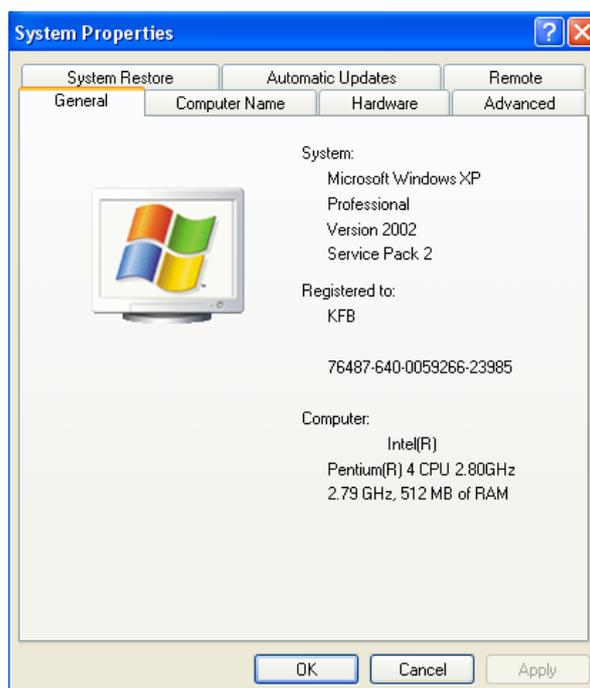
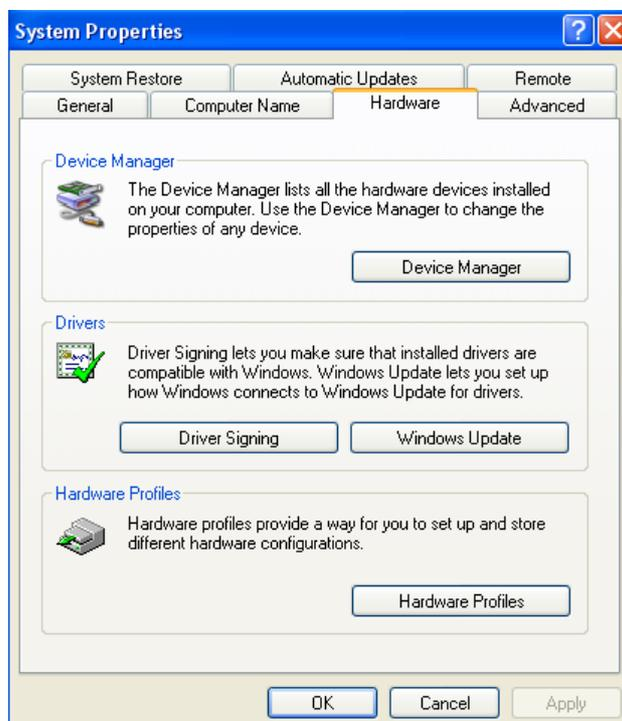
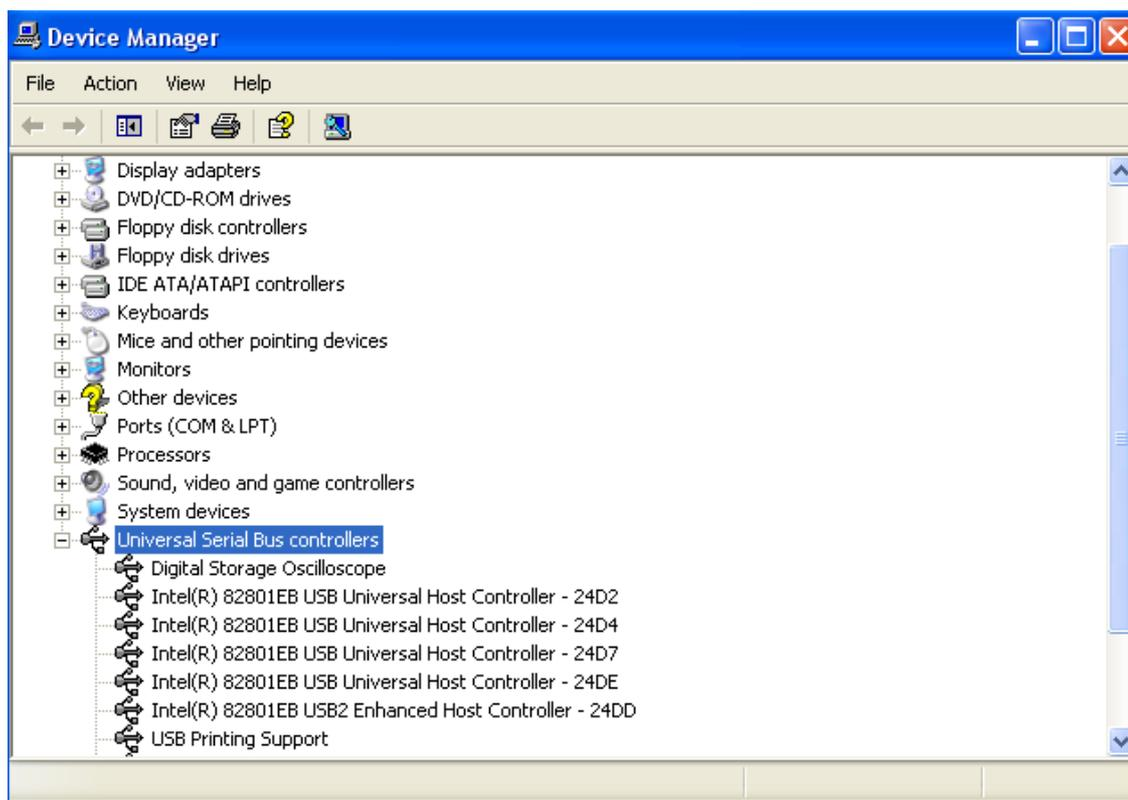

Fig 4-3
Fig 4-4
Fig 4-5
② In Fig 4-2, select “attribute” and right click to pop up Fig 4-3.
③ Select “hardware” in Fig 4-3. Fig 4-4 is displayed.
- ④ Select “equipment manager D” in Fig 4-4. Fig 4-5 pops up.
- ⑤ In Fig 4-5, delete “digital storage oscilloscope” in “Universal serial main line controller” to restart the oscilloscope. Select automatic driver update to complete the update process.